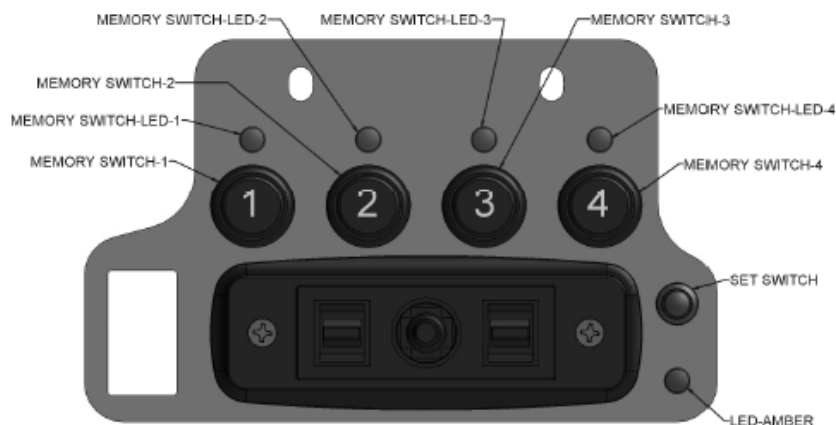

Fig 14.
2. When seat is positioned to its desired location, press and hold the Set Switch button for 3 seconds. (See Fig 14.) All of the green seat memory position LEDs will flash. The Set Switch button can be released. This indicates the system is ready to set a seat position to memory.
4. Repeat steps 1-3 to program other seat locations. The Atwood Six Way Memory Adjuster can hold up to four (4) programmed locations.